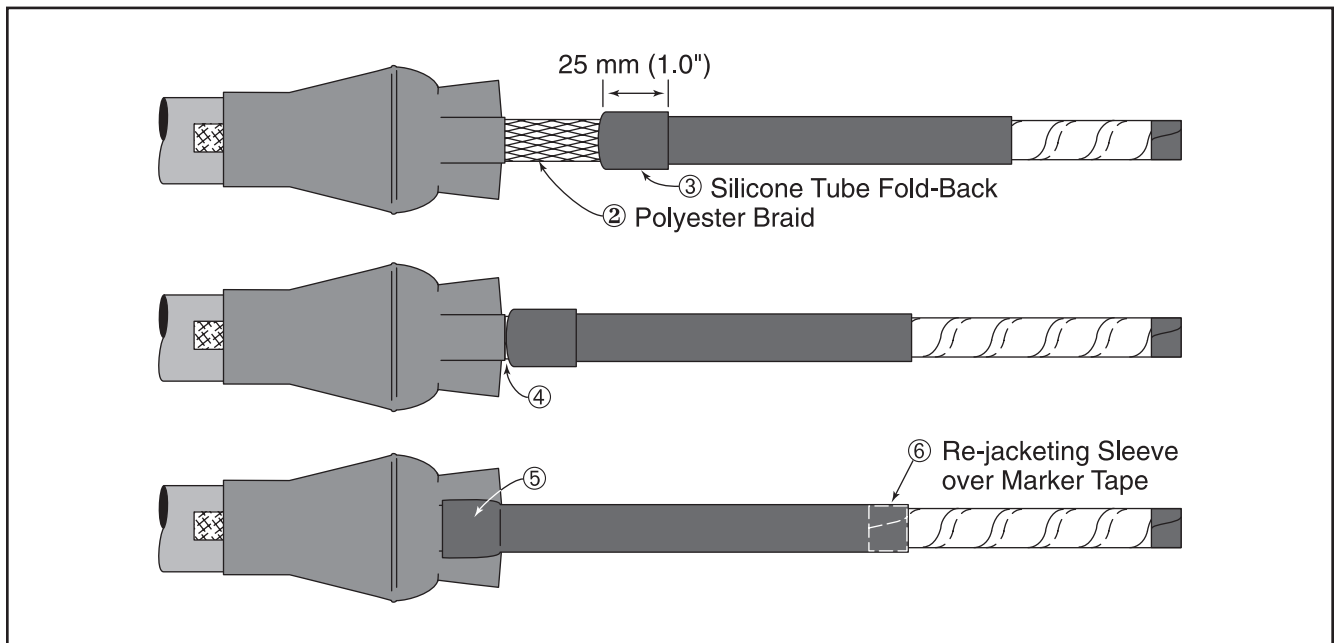

Figure 8
4.6 Slide re-jacketing sleeve until inner polyester braid is adjacent to breakout boot finger (② Figure 8).
4.7 Fold outer silicone tubing back on itself for 1" (25 mm) and trim off exposed polyester braid (③ Figure 8).
4.8 Slide re-jacketing sleeve assembly down until folded tube contacts edge of breakout boot finger (④ Figure 8).
4.9 Pull folded silicone tube section down onto breakout boot finger (⑤ Figure 8).
**Note: Re-jacketing tube end should align with upper edge of installed marker tape (⑥ Figure 8). Minor tube adjustments can be made as needed.**